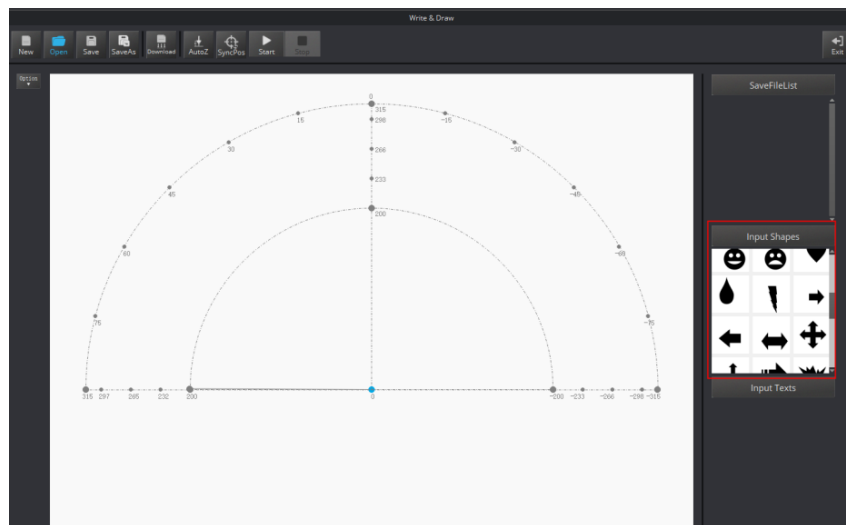

Figure 5.72 Insert a system image file
- Click a shape in the **Input Shapes** area to directly import a system image file, as shown in Figure 5.72.